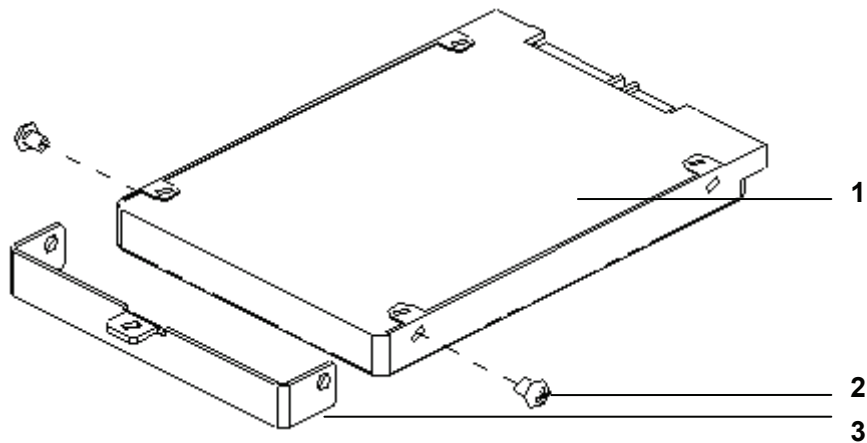

Figure 4-35 Removing HDD Fixing Part
- 3) As shown in Figure 4-35, remove two M3×4 screws, and separate the HDD fixing part, and remove HDD.